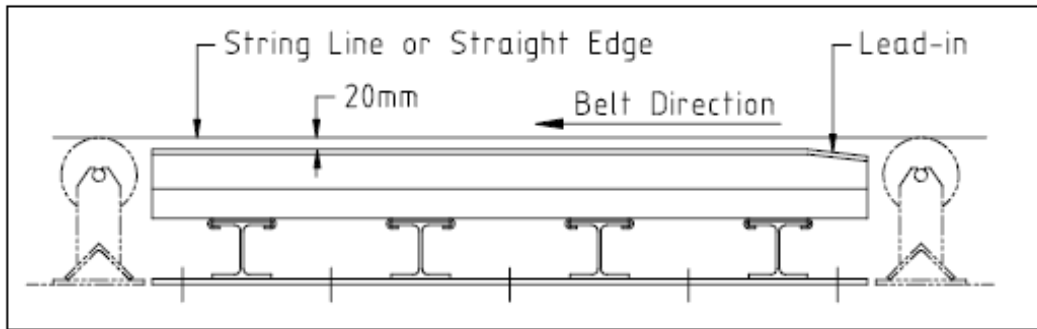

Figure 2 - Cradle Positioning
8. Using a string line or straight edge ensure that the top of the centre bars is approximately 20mm below the top of the centre rollers of the impact idler frame (Fig 2).